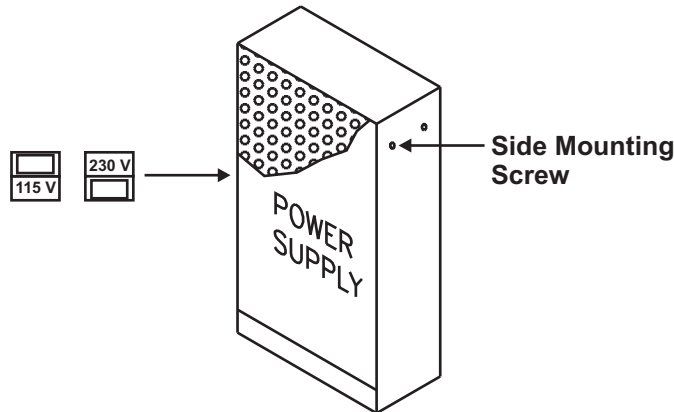

Figure 2-4. Power Supply Unit
4. Ensure that the power supply unit AC-input-voltage selector switch is set to the proper position for either 115 Vac or 230 Vac. See Figure 2-4 below.
5. Locate the side mounting screw which is in place on the side of the power supply unit. Refer to Figure 2-4 above for location of hole. Back out the screw by approximately 1/8-inch.
**Note:** The default power configuration is 120 Vac and will require resetting for 220/240 Vac operation. Configuration of primary AC power requires that the AC power-selection switch on the side of the power supply unit be set correctly before it is installed in the enclosure. Refer to Figure 2-4 for switch location.